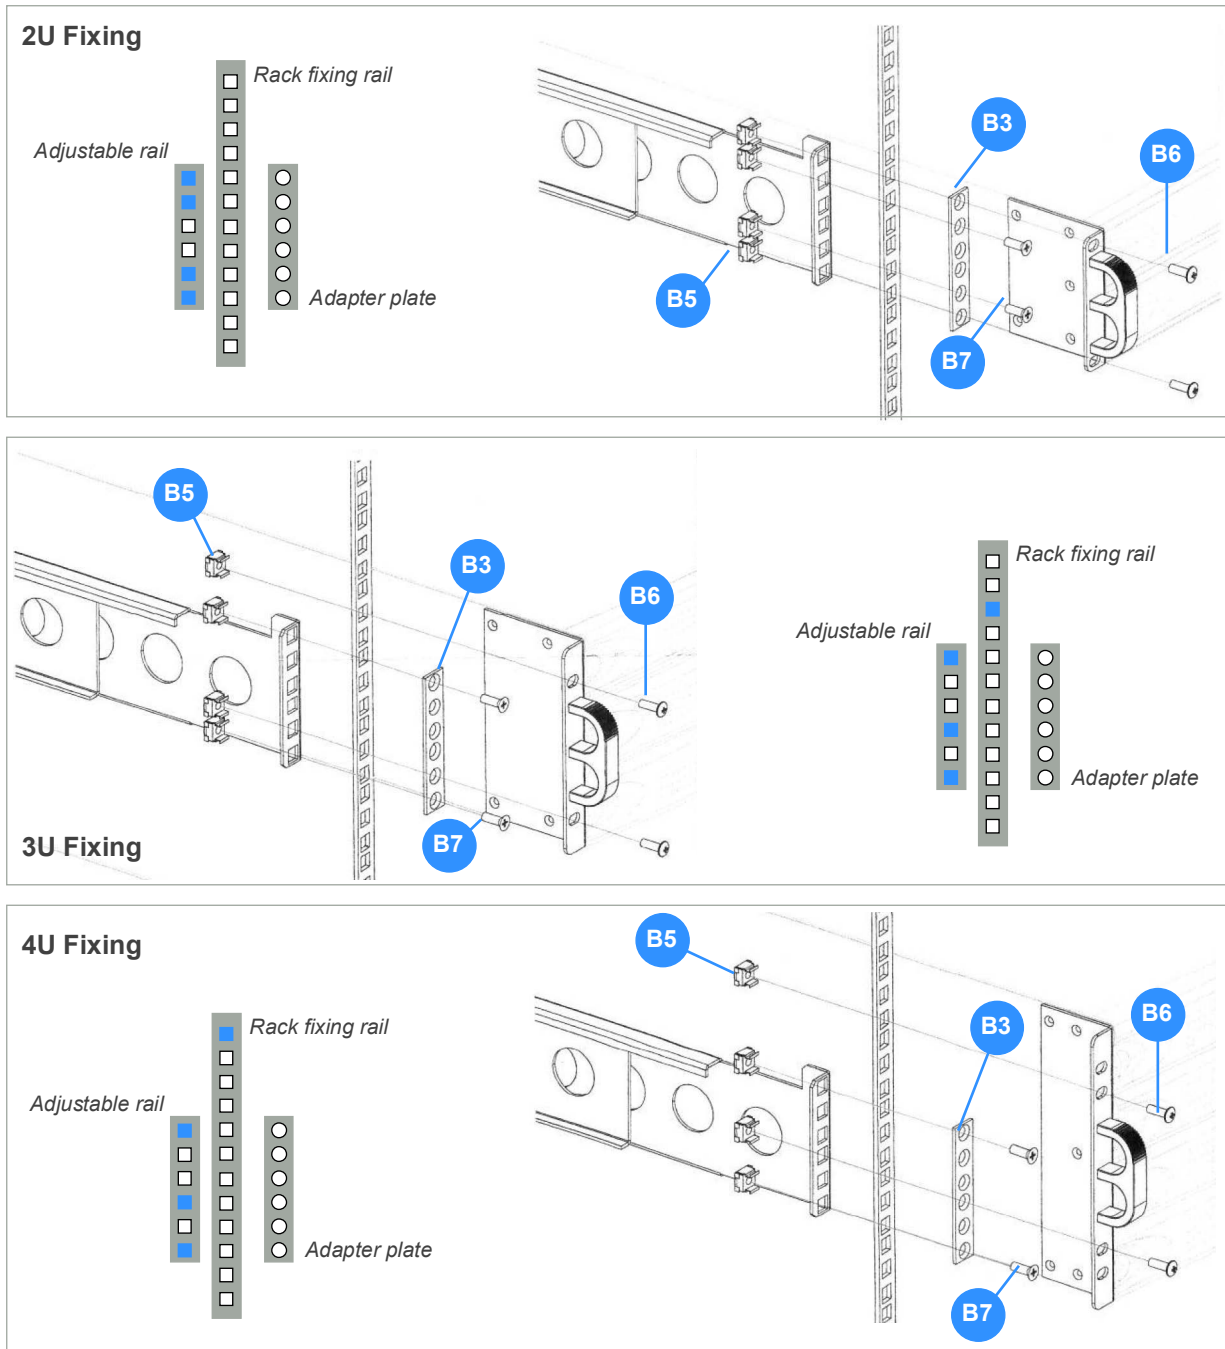

Figure 3.9 Fixing point for captive nuts
Note: Depending on the depth of the enclosure being installed (2U, 3U, 4U), this may require an adapter plate – see Figure 3.9 for fixing details.
8. Secure the adjustable mounting rail to the vertical rail using two countersunk screws (B7) and adapter plate (B3) (see Figure 3.9).
10. When both mounting rails are fitted, carefully insert the Battery and UPS enclosures into the rack so that they rest correctly on the rails. Then secure in place using the four dome head screws (B6) as shown in Figure 3.9.